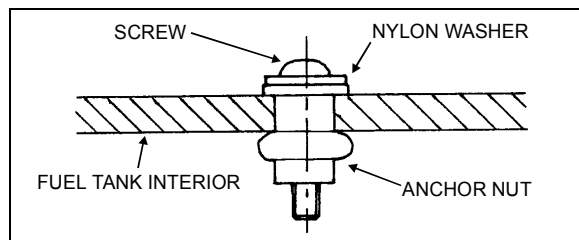

FIGURE 18: FUEL TANK REPAIR 03014
5. Place assembly in drill hole. Tighten screw by 10 complete turns. Refer to Fig. 18.